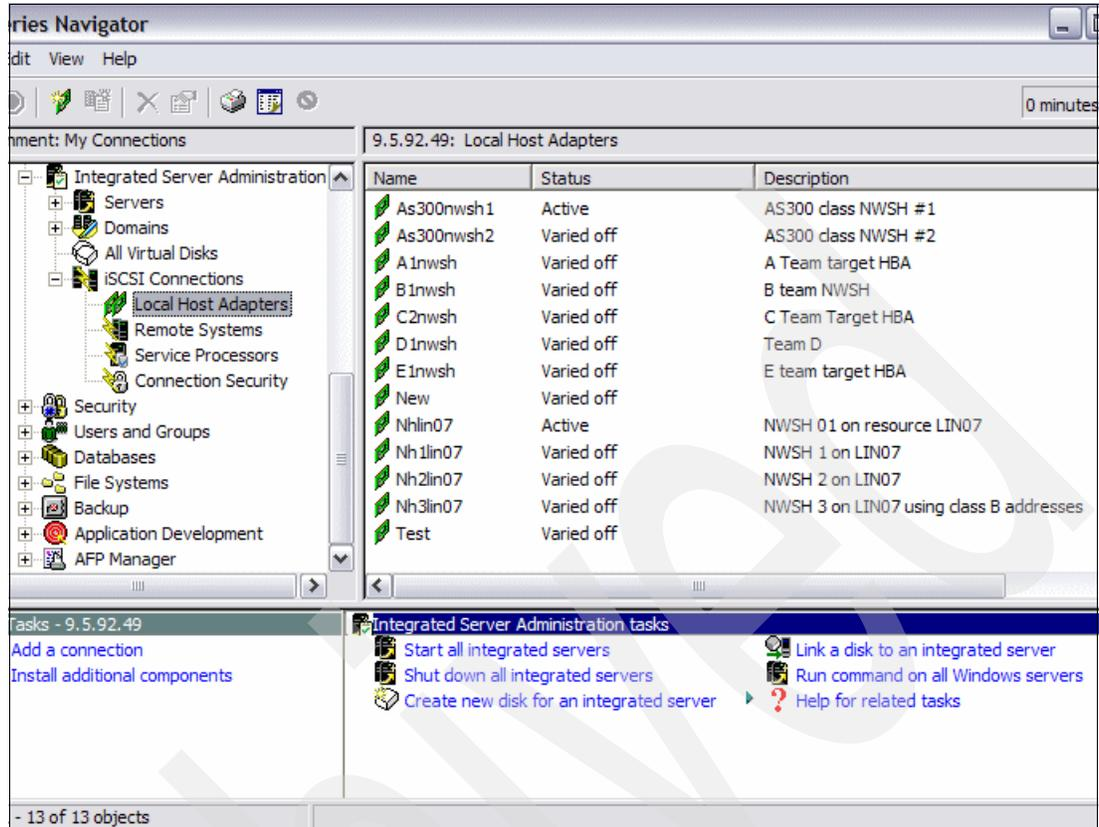

Figure 4-36 Verify that the NWSH is active
- ▶ The appropriate NWSH is active (Figure 4-36 on page 81). To verify that the appropriate NWSH is active: Expand **Integrated Server Support** → **iSCSI connections** → Double-click **Local Host Adapters** and verify that the correct NWSH is active.